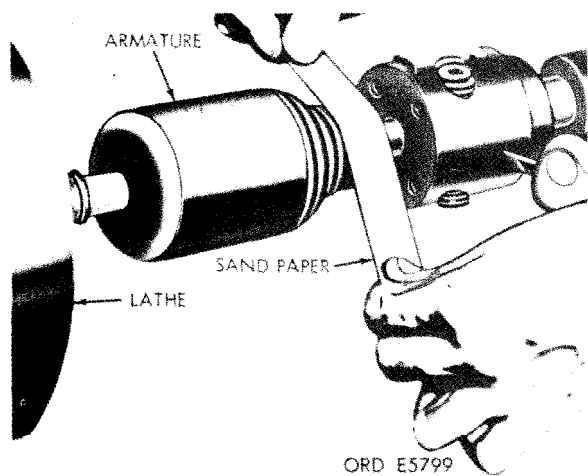

FIGURE 27. POLISHING COMMUTATOR WITH SANDPAPER.
- (3) Polishing commutator. After the mica has been undercut, remove all copper and mica particles with compressed air. Polish the commutator in a lathe with No. 2/0 sandpaper (fig. 27) while the armature is rotating at 1500 rpm. After polishing the armature, check that the diameter is within the limits specified in wear limits (par. 41f).